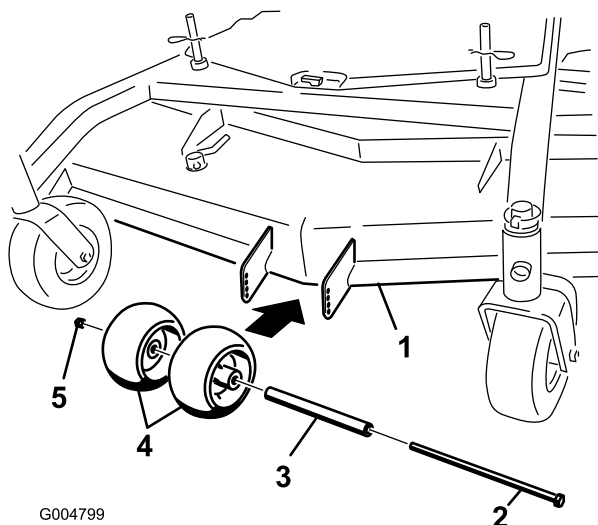
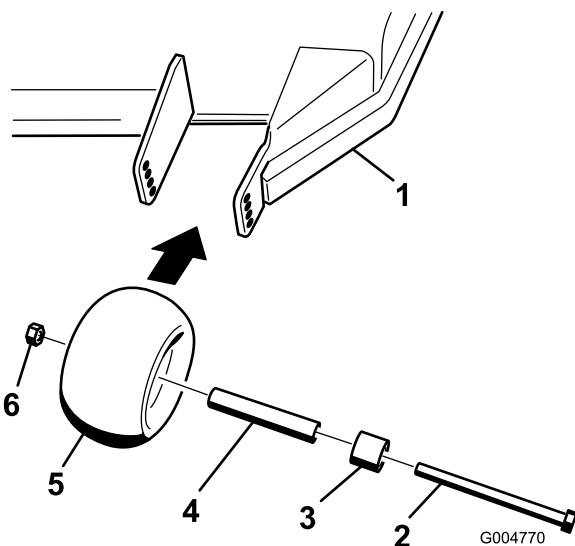
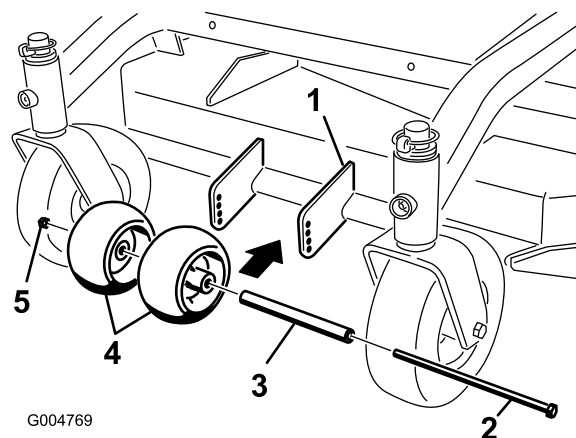

Figure 14
Figure 15
Figure 16
1. After adjusting the height-of-cut, check the anti-scalp rollers so that there is a minimum of 3/8 inch (10 mm) clearance above the ground (Figure 14, Figure 15, Figure 16).
2. If adjustment is needed, remove the bolt, washers and nut (Figure 14, Figure 15, Figure 16).
3. Select a hole position so the anti-scalp rollers are a minimum of 3/8 inch (10 mm) off the ground (Figure 14, Figure 15, Figure 16).
4. Install the bolt and nut (Figure 14, Figure 15, Figure 16).